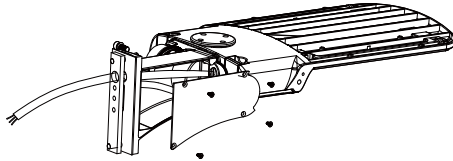

Figure 1
- Unscrew the bracket mounting screws from the fixture and pass the wires through the bracket's side lid (Figure 1).